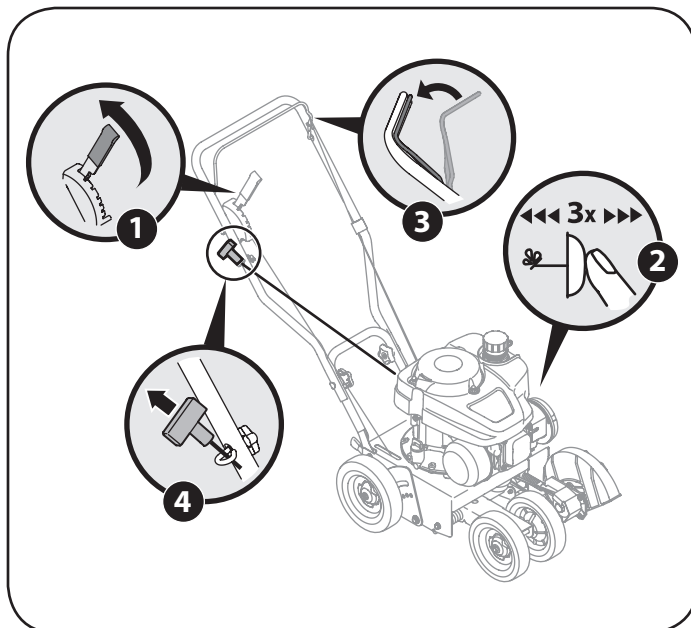

Figure 8
2. Push the primer three times. See Figure 8. Do not prime to restart a warm engine.
4. With your right hand, grasp recoil starter handle and pull rope slowly until resistance is felt, then pull with a rapid, continuous, full arm stroke. See Figure 8. Keeping a firm grip on the starter cord handle, let the rope rewind slowly. Repeat until engine cranks. Let the rope rewind each time slowly.